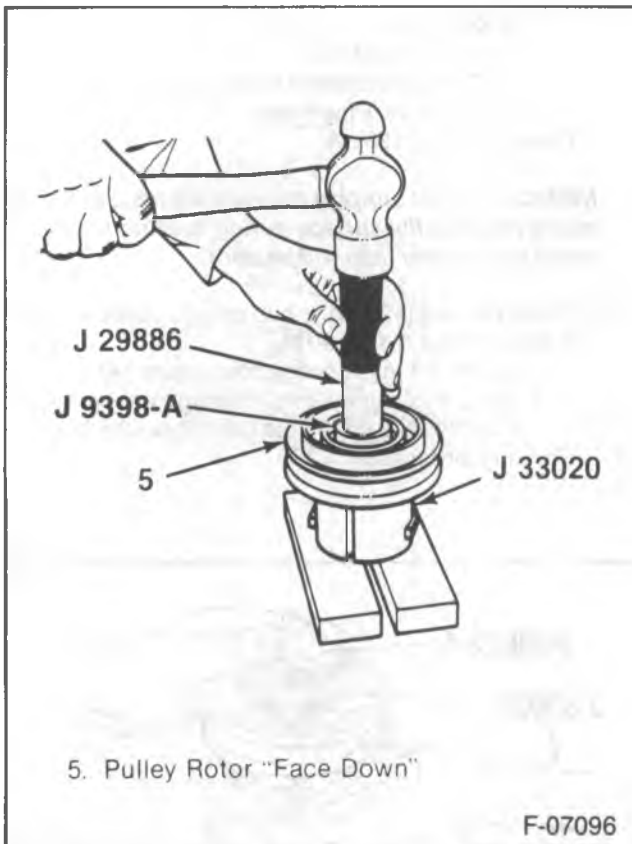

Figure 12 — Removing the Pulley Bearing
4. Pulley bearing (4) from the pulley (5) using J 9398-A and J 29886 (figure 12).
- Remove the forcing screw from J 33020 and with the puller tangs still in place in the pulley slots, turn the assembly upside down onto a flat surface (figure 12).
- When removing the old pulley bearing (5) allow the staking to remain, then file away the old staked metal for proper fit when installing a new bearing (5) in the pulley bore.